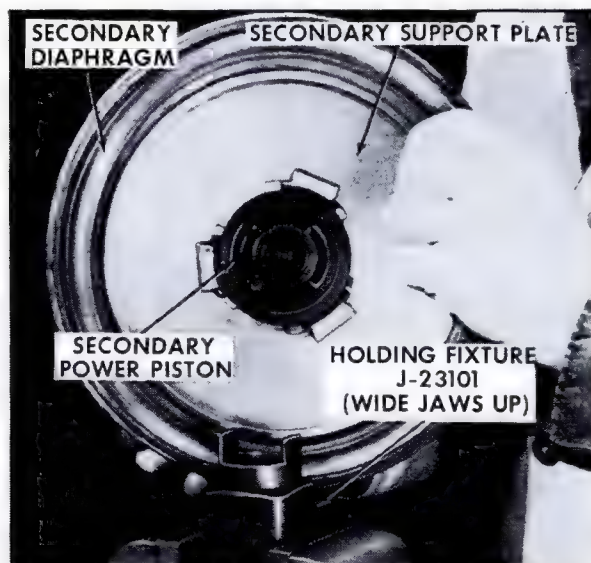

Fig. 5-37 Positioning Secondary Power Piston
10. Mount Holding Fixture, J-23101, in a vise with wide jaws up. Position the secondary power piston so that the two radial slots in the piston fit over the jaws of the tool, Fig. 5-37.
28. Mount Tool J-23101 in a vise with large jaws up. Position the secondary power piston so that the radial slots in the piston fit over the jaws of the tool, Fig. 5-37. Apply a light coat of silicone lubricant to the tube of the secondary power piston.